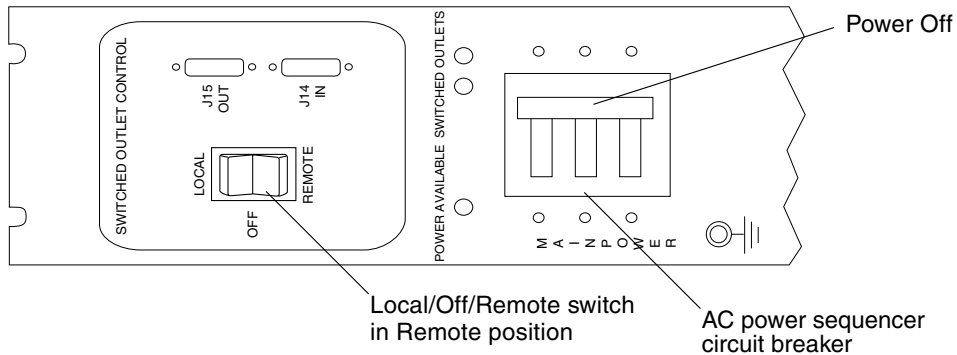

FIGURE B-10 AC Power Sequencer Control Panel: Power Off
4. At the bottom front and bottom back of the base cabinet and expansion cabinets (if applicable), press the AC power sequencer circuit breakers up to the Power Off position (FIGURE B-10).
5. At the bottom front and bottom back of the base cabinet and any expansion cabinets, verify that the Local/Off/Remote switch is in the Remote position (FIGURE B-10).